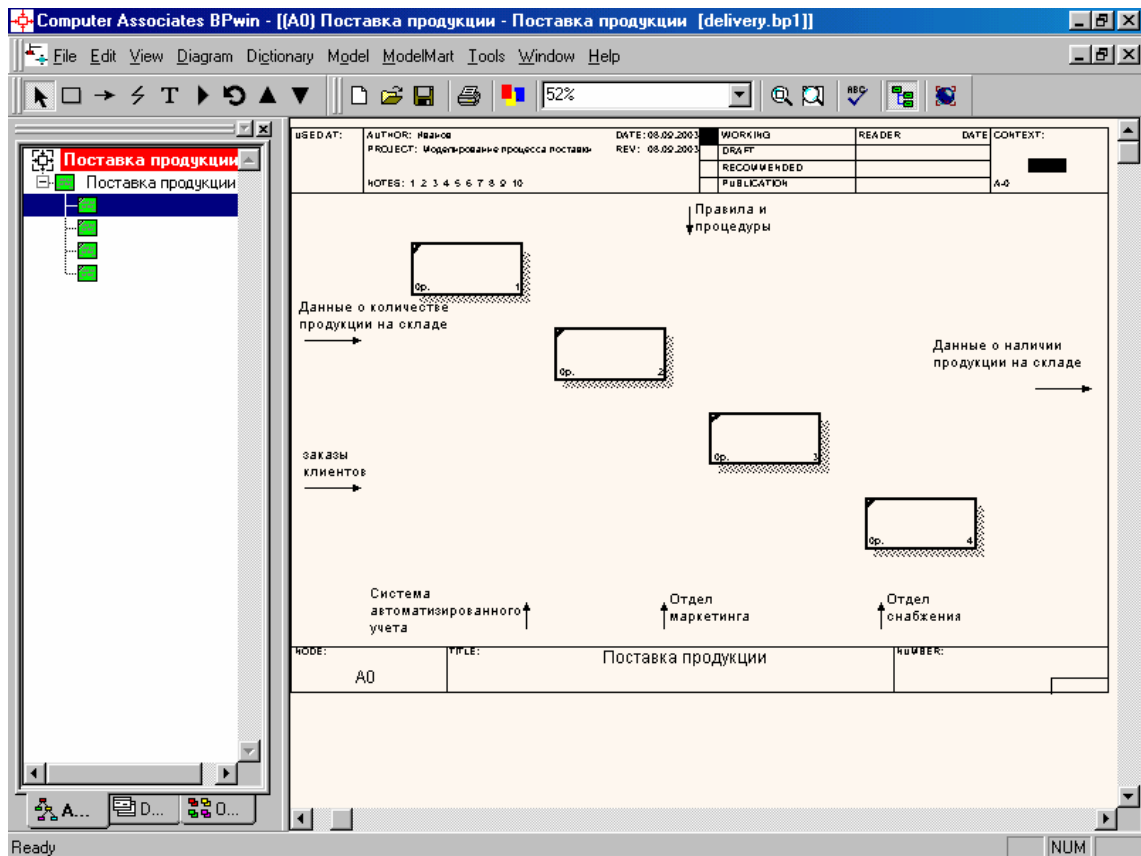

Figure 1.8
3. As a result of decomposition the diagram which kind corresponds to Figure 1.8.